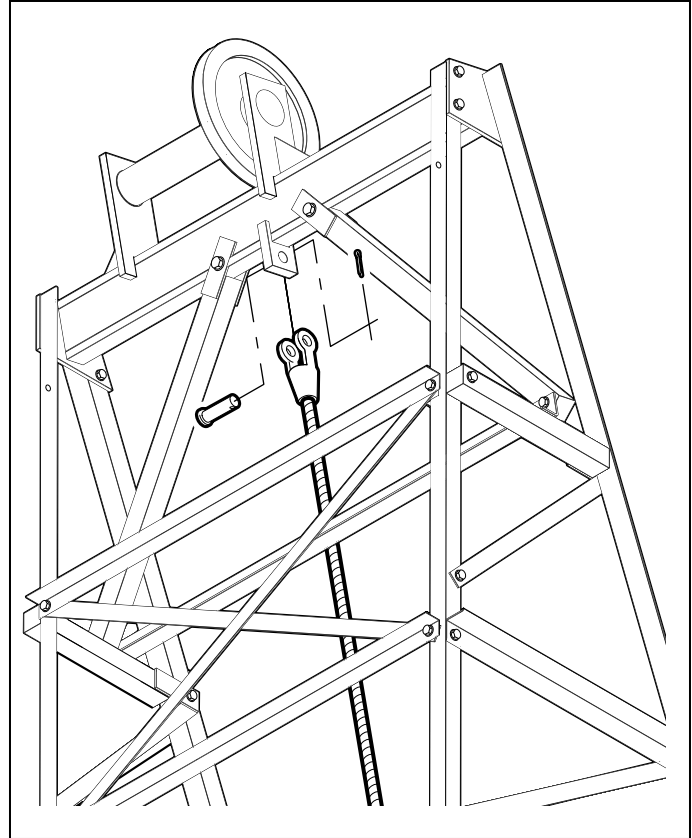

Figure 3.9 Install Cable – Stationary End
- Secure the cable to the underside of the top sheave support as shown in Figure 3.9.